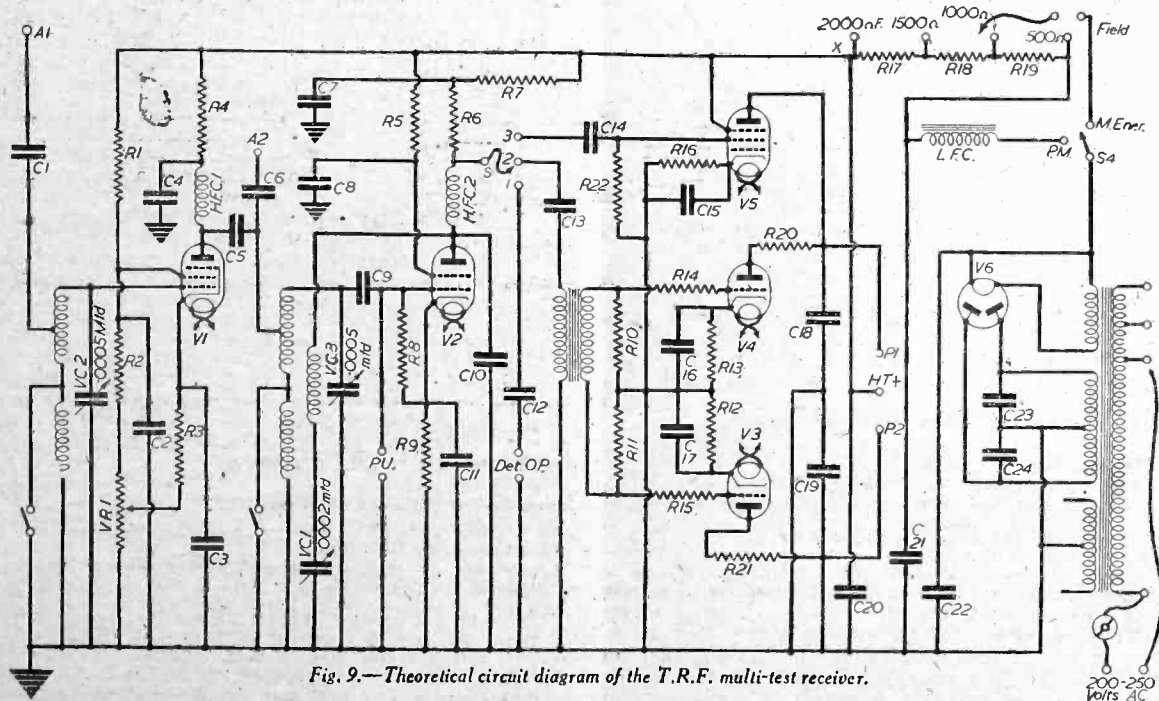

Fig. 9.—Theoretical circuit diagram of the T.R.F. multi-test receiver.
Bearing these points in mind, it may be found that an ordinary domestic receiver will not entirely be convenient, and that a set incorporating special features is desirable. The receiver should be of average sensitivity and have a reasonably powerful undistorted output of good quality. It is useful, also—in view of the above remarks—to make provision for alternative circuit combinations. For various reasons, but mostly because of the component difficulty, a superheterodyne receiver was ruled out and the T.R.F. circuit arrangement shown in Fig. 9 was decided upon. At first glance it may appear to be complicated, but actually this is not so, as it consists of a stage of high-frequency amplification (variable Mu) choke-coupled to a screened-grid detector, which, in turn, is coupled to either of three alternative outputs, viz.: (1) direct to phones (no L.F. stage); (2) to resistance capacity coupled pentode, or (3) to transformer coupled push-pull power valves.
This arrangement is extremely convenient when making comparative tests or for taking measurements of stage gain, etc., and for these purposes also it will be seen that the aerial may be transferred to the input of the detector, and by so doing the high-frequency valve is, in effect, removed from circuit. Without enumerating all of them, it will be seen that very many circuit combinations are available, such as r-v-o, o-v-r/x, r-v-r, etc. An examination of the circuit diagram will also reveal that provision is made for the testing of energised speaker units having field resistances of 500, 1,000, 1,500 and 2,000 ohms, as well as the permanent magnet type. Under any of the above conditions the high-tension voltage appearing at X in Fig. 9 remains the same.